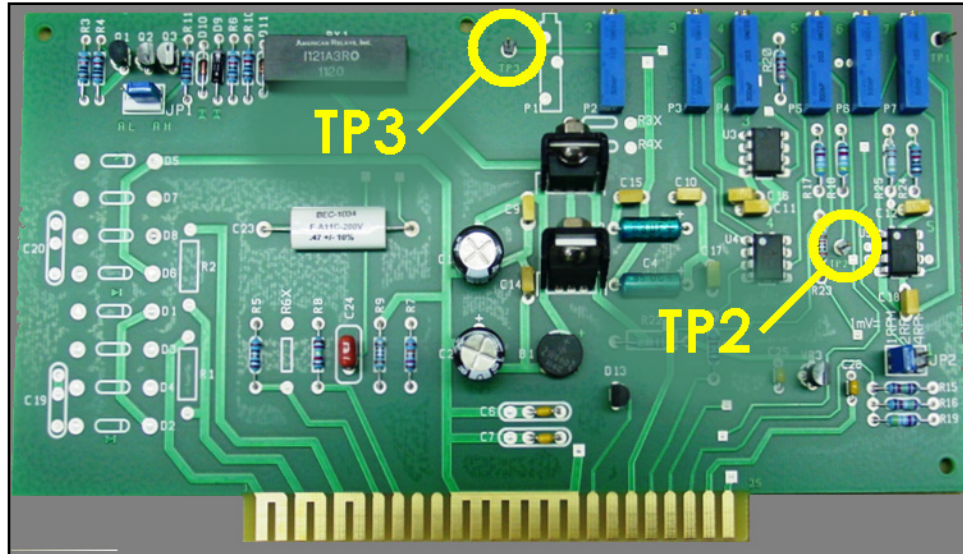

Figure 2-4. Location of Test Points on the MSR Rotator Control Unit Circuit Board
9. Locate test points **TP2** and **TP3** on the circuit board. These test points are accessible without the need to remove the circuit board from the control unit (see Figure 2-4).